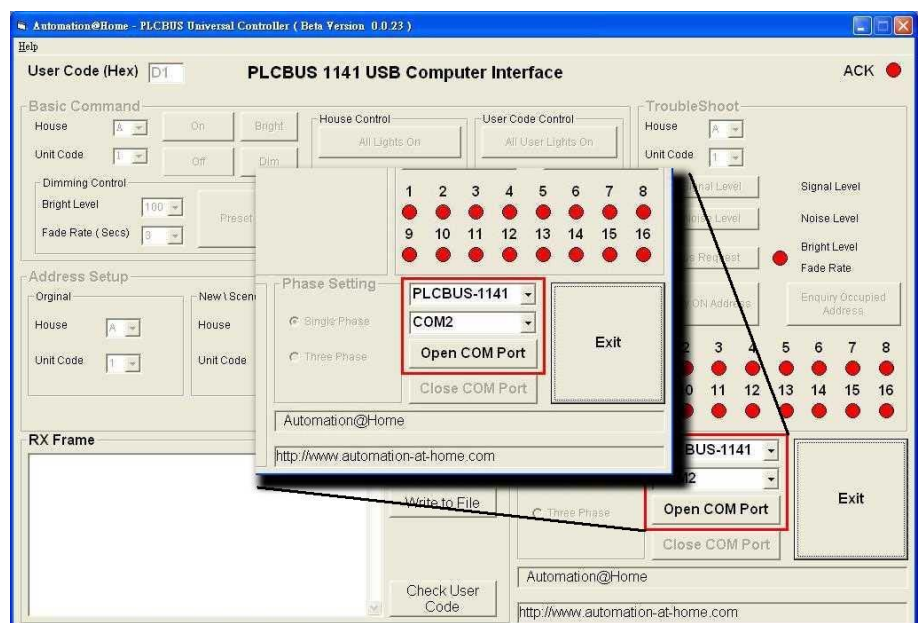

Figure 2.1
- 2 Select the controller to “PLCBUS-1141” and select the com port , see figure 2.1